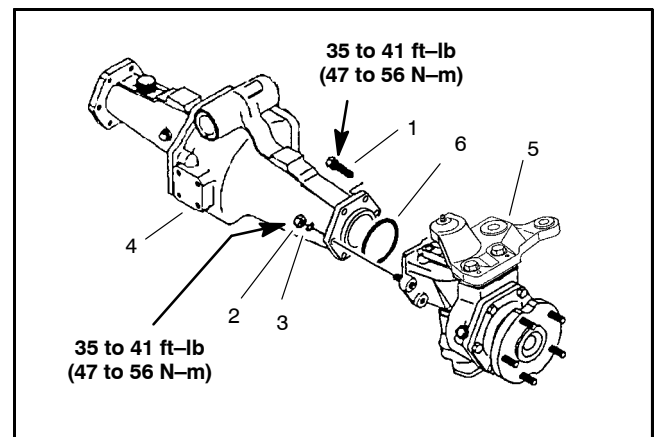

Figure 11
12. Coat a new O-ring with grease and install the bevel gear case/axle case assembly on the axle support. Tighten mounting screws and nuts from 35 to 41 ft-lb (47 to 56 N-m) (Fig. 11).
1. Remove the mounting screws, nuts, and lock washers. Remove the bevel gear case/axle case assembly and O-ring from the axle support (Fig. 11).